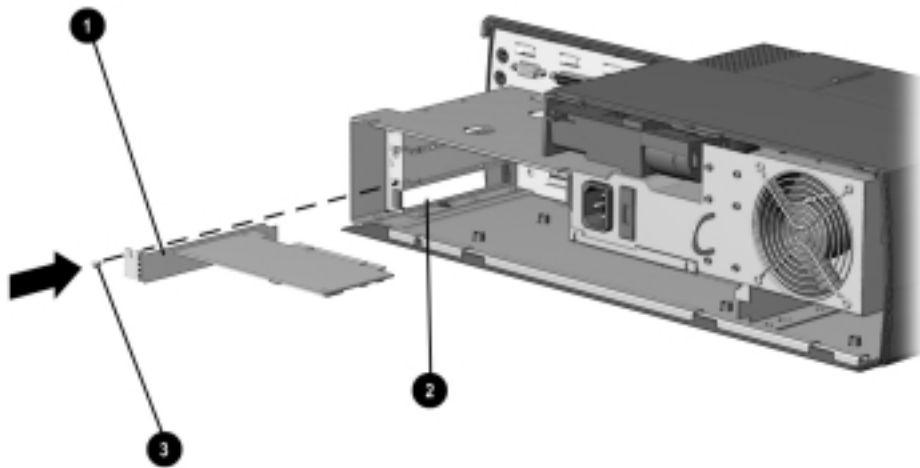

Figure 5-11. Installing an Expansion Board
6. Align the bracket on the left side of the expansion board ❶ with the expansion slot on the left side of the expansion base ❷ (Figure 5-11).
8. Secure the expansion board to the base cover by installing the screw ❸ removed in Step 4.